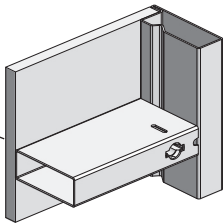

Fig. 8.4
- Cross stiffener made of sturdy closed steel profile with welded-in DW 15 threaded nuts for fast and solid attachment of accessories (Fig. 8.4).